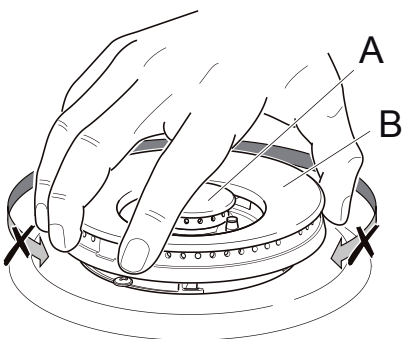

Figure 15f
- Then position the cap “A” and the ring “B” (see fig. 15f).